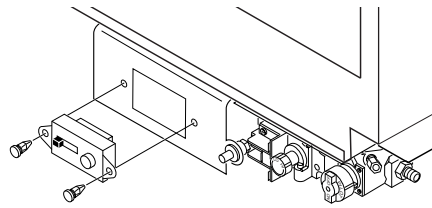

Figure 39 - Installing Remote Receiver
5. Place receiver into valve bracket and align holes (see Figure 39).